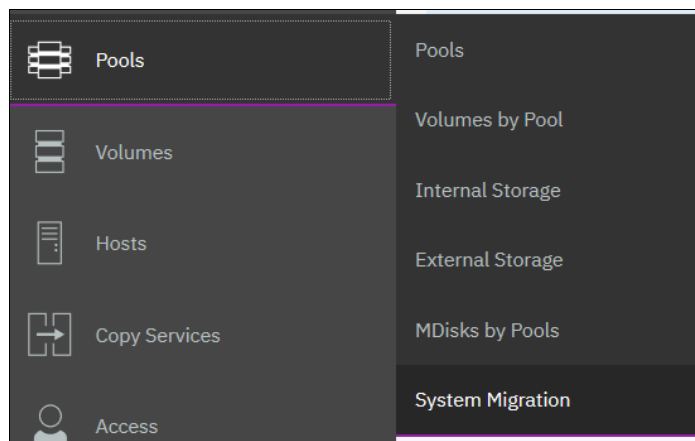

Figure 8-1 Browsing to Storage Migration
1. Select **Pools** → **System Migration**, as shown in Figure 8-1. The System Migration window provides access to the storage migration wizard and displays information about the migration progress.